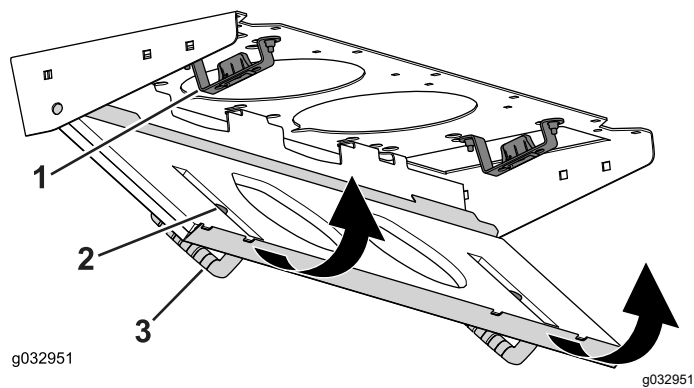

Figure 83
4. Rotate the filter screen around the tabs until the latch locks into the latch-mount assembly (Figure 83).